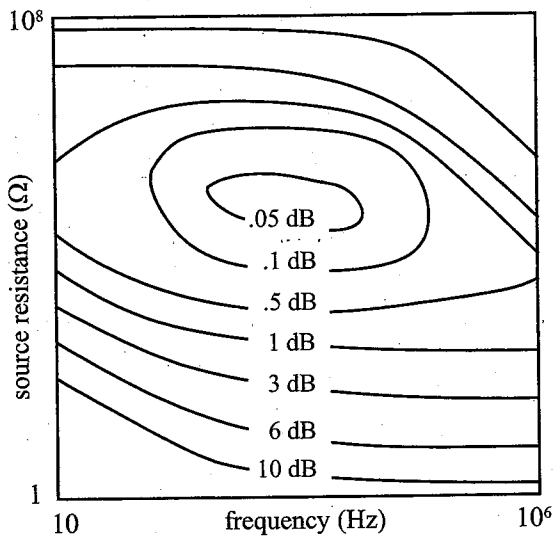

Fig 2: Noise contours for a low-noise amplifier.
- The noise figure is often plotted as noise contours as a function of input impedance and frequency, see fig. 2 below.